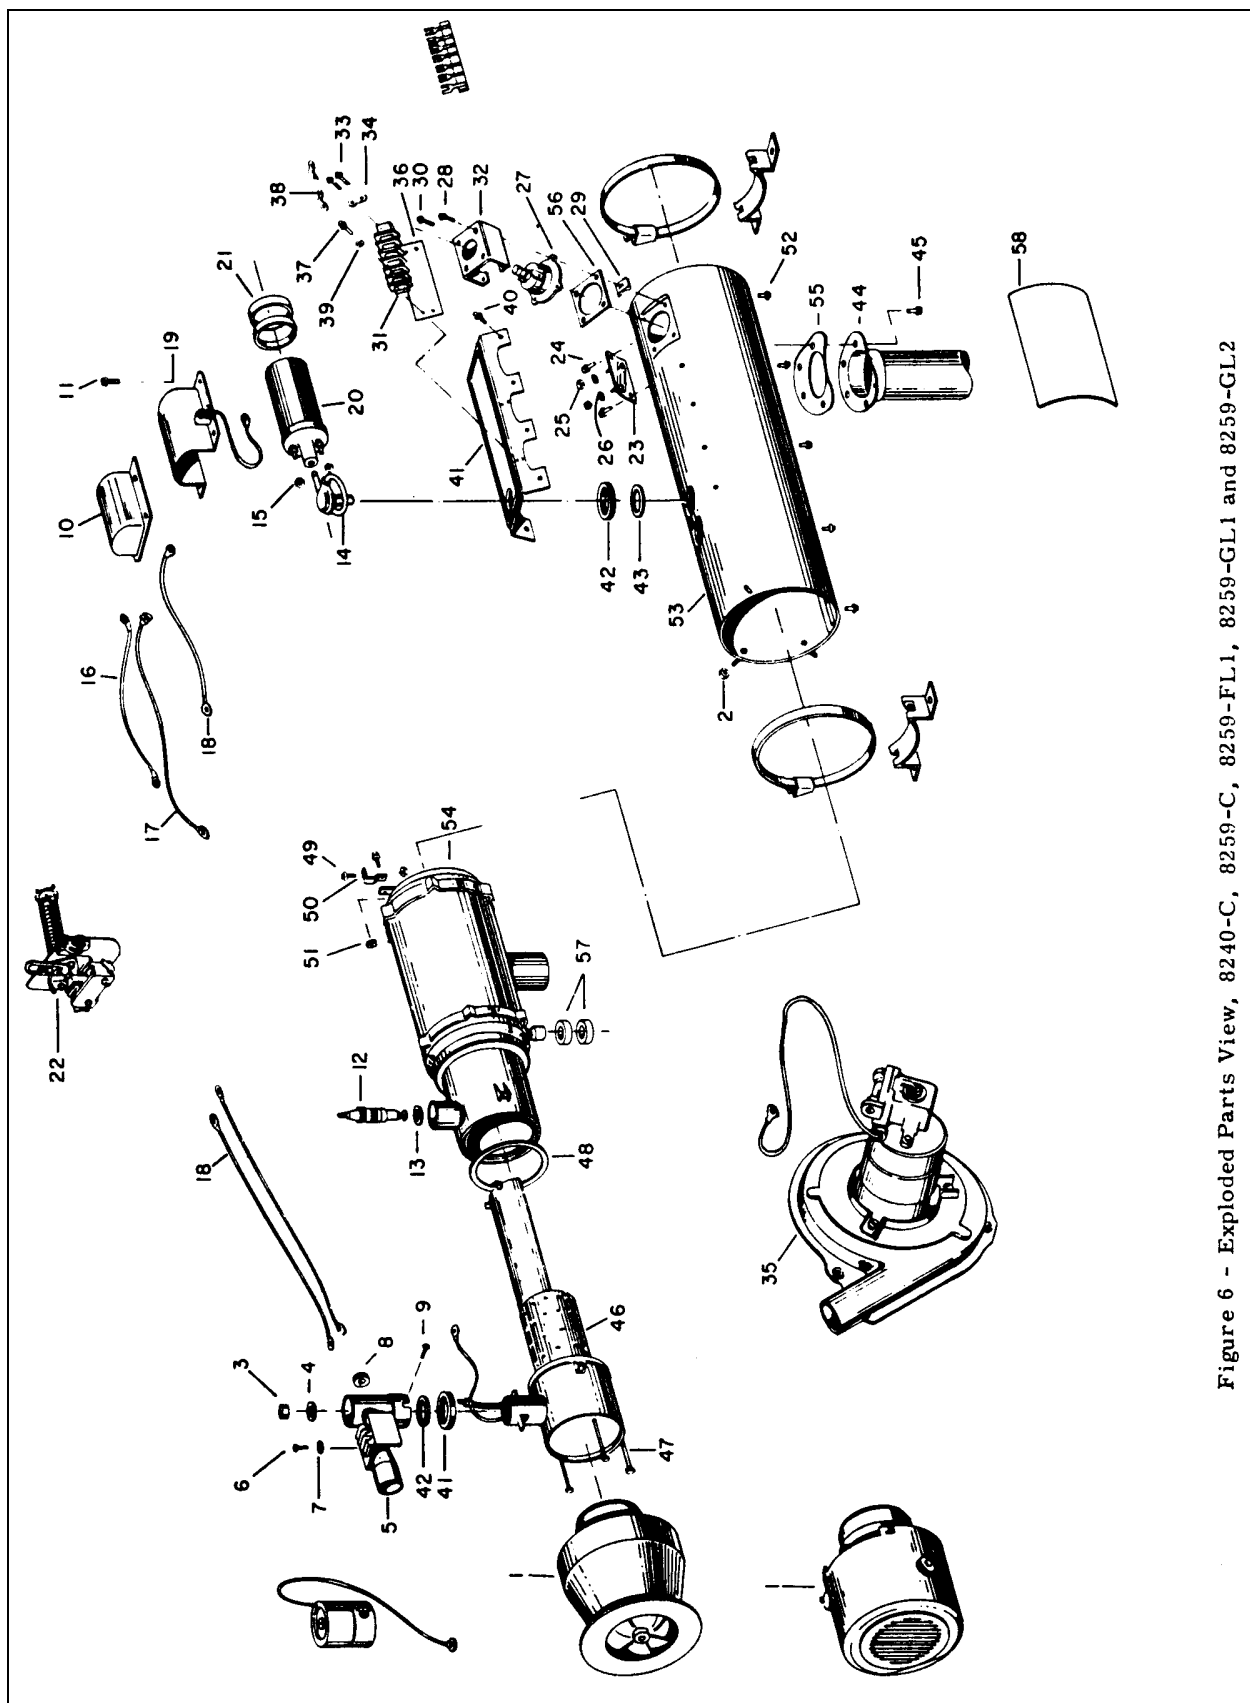

Figure 6 - Exploded Parts View, 8240-C, 8259-C, 8259-FL1, 8259-GL1 and 8259-GL2
## LEGEND FOR FIGURE 6
**HEATER DISASSEMBLY** 8240-C, 8259-C, 8259-FL1, 8259-GL1 and 8259-GL2 (See Fig. 6)
1. Disconnect the ventilating air blower lead from terminal 5 of the terminal strip and remove the blower (1) by loosening four nuts (2) at the end of the heater case (53). Turn the blower (1) in a counterclockwise direction to free the bayonet slots and pull straight off.
2. On older model heaters, remove the airflow switch guard by removing the four screws (guard is not used on late model heaters). Remove the nut (3) and washer (4) from the fuel line bulkhead fitting and disconnect the airflow switch leads from terminal 6 and 10 of the terminal strip. Remove the airflow switch (5) by removing the two screws (9) and pushing the grommet (8) into the airflow switch so that it remains on the solenoid lead. Disconnect the lead from terminal 8 of the terminal strip.
3. Remove the ignition housing (10) by removing four screws (11) and remove the ignition cable (14) from the spark plug (12) and coil (20). Remove the spark plug (12) with a 1-inch deep socket and remove gasket (13). Disconnect leads from the overheat switch (27) and duct limit switch (23).
4. Disconnect the ignition unit lead from terminal no. 10 of the terminal strip and remove the remaining screws (11) from the ignition unit flange. Lift off the ignition unit (19). Remove ignition coil (20) and pads (21). Leave pads on the coil unless the coil is to be replaced.
5. Remove the duct limit switch (23) by removing two screws (24).
6. Remove the overheat switch (27) by removing four screws (28). Leave the speed nuts (29) in the housing if undamaged.
7. The terminal strip (31) and marker strip (36) need not be removed from the shelf assembly (41), unless replacement is required. Remove the shelf assembly (41) by removing eight screws (40). This will also free the shielding gasket (42) and seal (43) from models so equipped.